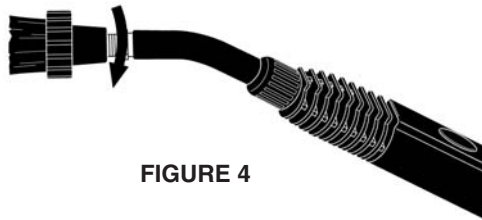

FIGURE 4
2. Screw Nylon Utility Brush on to Steam Jet Nozzle, by turning it in a clockwise direction (FIGURE 4). Make sure it is screwed on tight to ensure that it is properly sealed, which will help prevent any steam leakage.